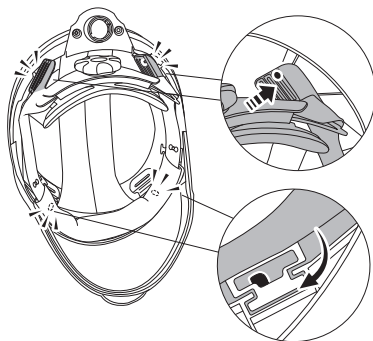

fig.3b
Step 2: After adjusted, put it back in face shield (adjustable on 4 points) (See fig.3b). Make sure the headgear is not twisted.